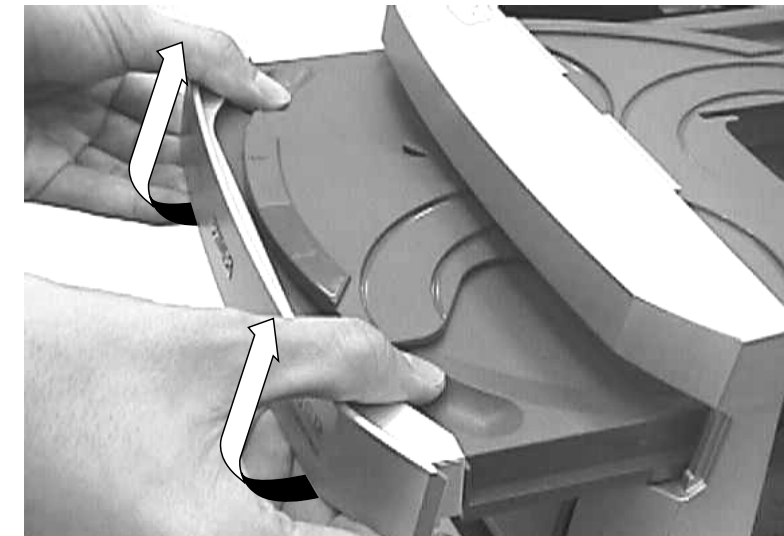
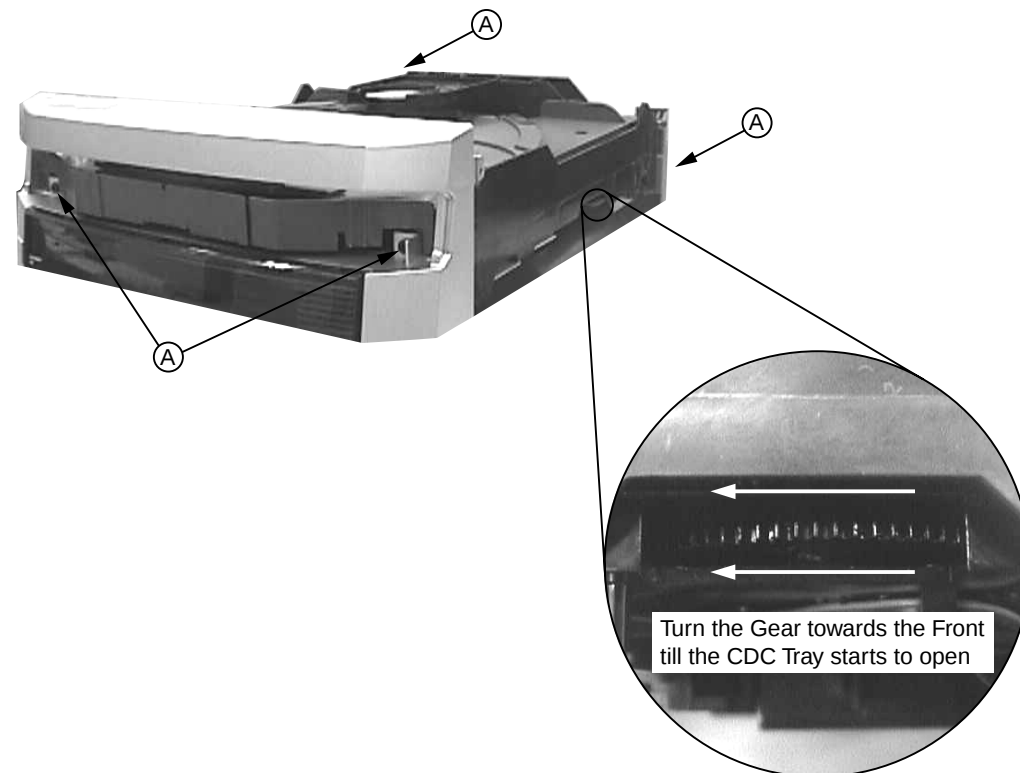

Figure 4
Figure 3
- 1) Loosen the 4 screws, slide Cover top (pos 30) towards the rear and remove it upwards.
- 2) Loosen 3 screws slide the Panel right (pos 26) towards the rear and remove it outwards. Do likewise for the Panel left (pos 27).
- 3) Push the gear slowly towards the front as shown in figure 3
- 3 until the CDC tray starts to move out of the Front Cabinet (pos 8). The CDC tray is now disengage and can be pulled out completely.
- 4) Remove the Cover Tray (pos 29) as shown in figure 4.
- 5) Loosen 4 screws A to remove the CDC Module (pos 28) as shown in figure 3.